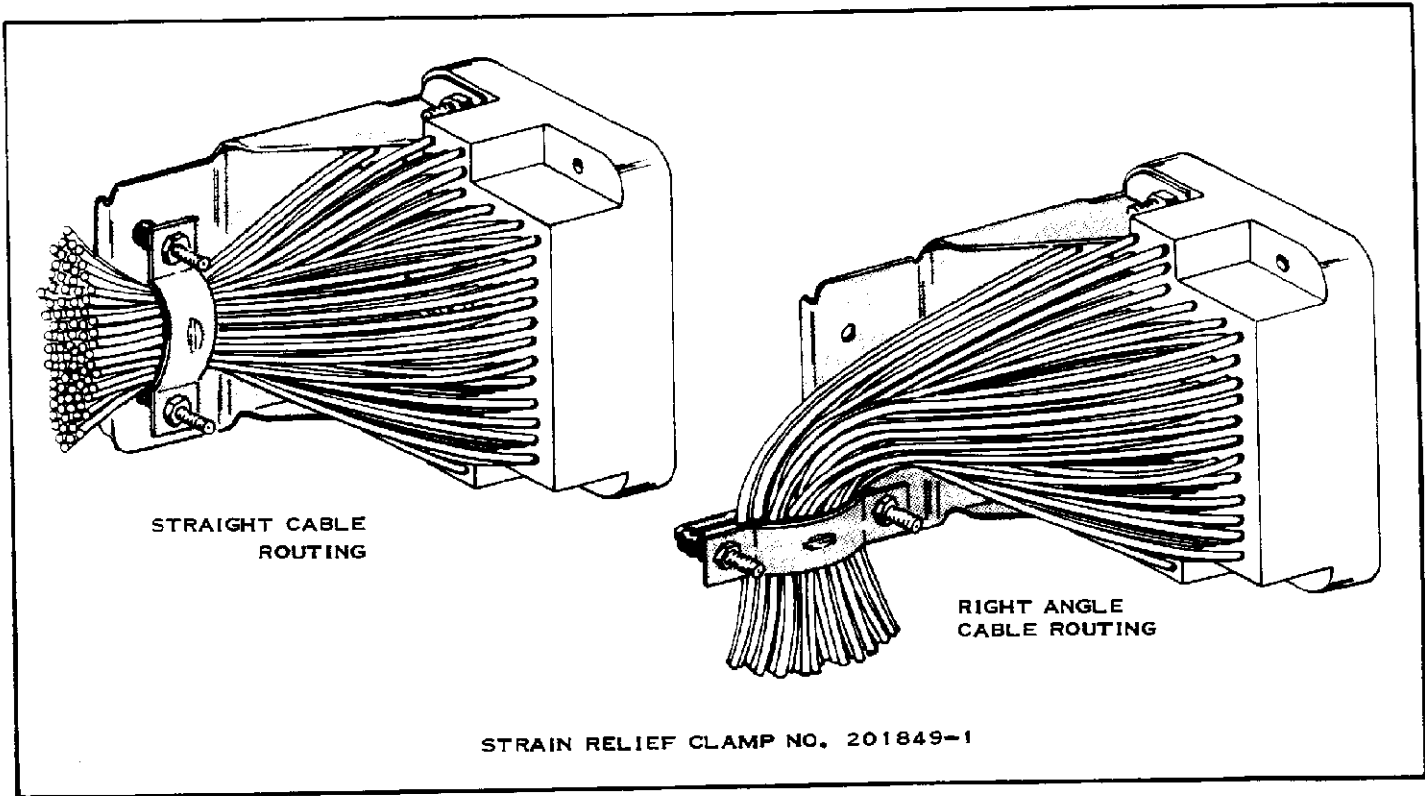

FIGURE 4
- (a) STRAIN RELIEF CLAMPS relieve strain on Contacts caused by free-hanging Wires. These clamps may be used for both straight and right angle Cable routing. See Figure 4. The Clamps may be used only on Female Blocks (Part No. 202800) and should be attached to Blocks using either guide pins and sockets or two 6-32 x 3/8" machine screws, nuts and lock-washers.